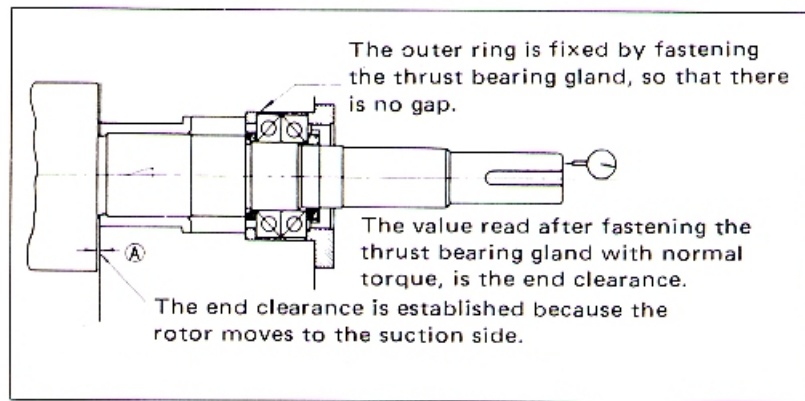

Figure 5-24 End Clearance adjustment (II)
- (1) If the end clearance is greater than the specified value, if the clearance measured from the discharge side of the bearing head at the end of the rotor is too large, the thrust bearing must be tightened with a lock nut to narrow the end clearance.
Method 1: If the end clearance (A) (Figure. 5-24) is too large, sharpen the thrust bearing alignment spacer to make it the same thickness as the difference between the measurement result and the specified value. Perform this work with a precise surface grinder. Measure the thickness of the washer around the entire circumference with a micrometer to make sure it is parallel. This adjustment method is available for all models.